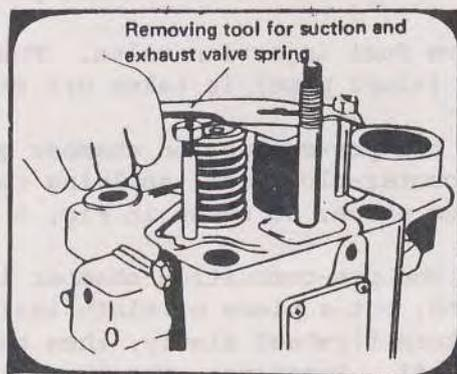

Fig. 7
- (a) As shown in Fig. 7, use a special tool for removing the valve spring, and remove valve spring support.